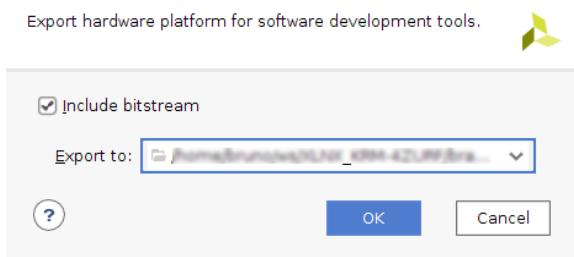

Figure 19. Export rf-analyzer hardware
5. Wait until the process ends and export the Hardware using “File>Export>Export Hardware...” to get the menu described on Figure 19. Select the folder “images” as destination and “Include Bitstream”.